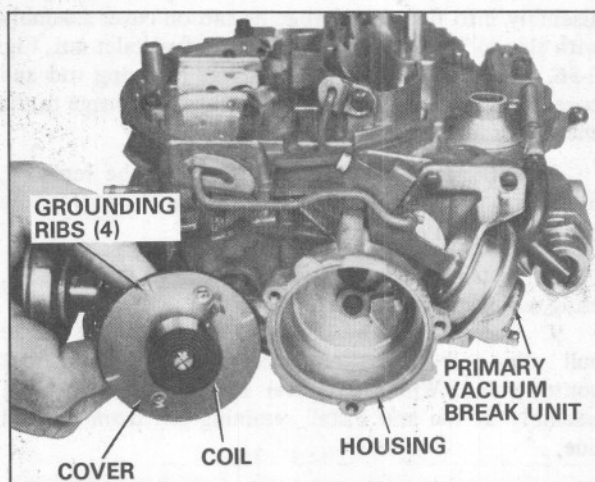

Fig. 6-38 Choke Linkage
3. Install fast idle cam onto the intermediate choke shaft (steps on fast idle cam face downward), Fig. 6-38.
4. Carefully install fast idle cam and intermediate choke shaft assembly in choke housing, Fig. 6-38, then install thermostatic coil lever onto flats on intermediate choke shaft. Inside thermostatic choke coil lever is properly aligned when both inside and outside levers face towards fuel inlet. Install inside lever retaining screw into end of intermediate choke shaft. Tighten securely.